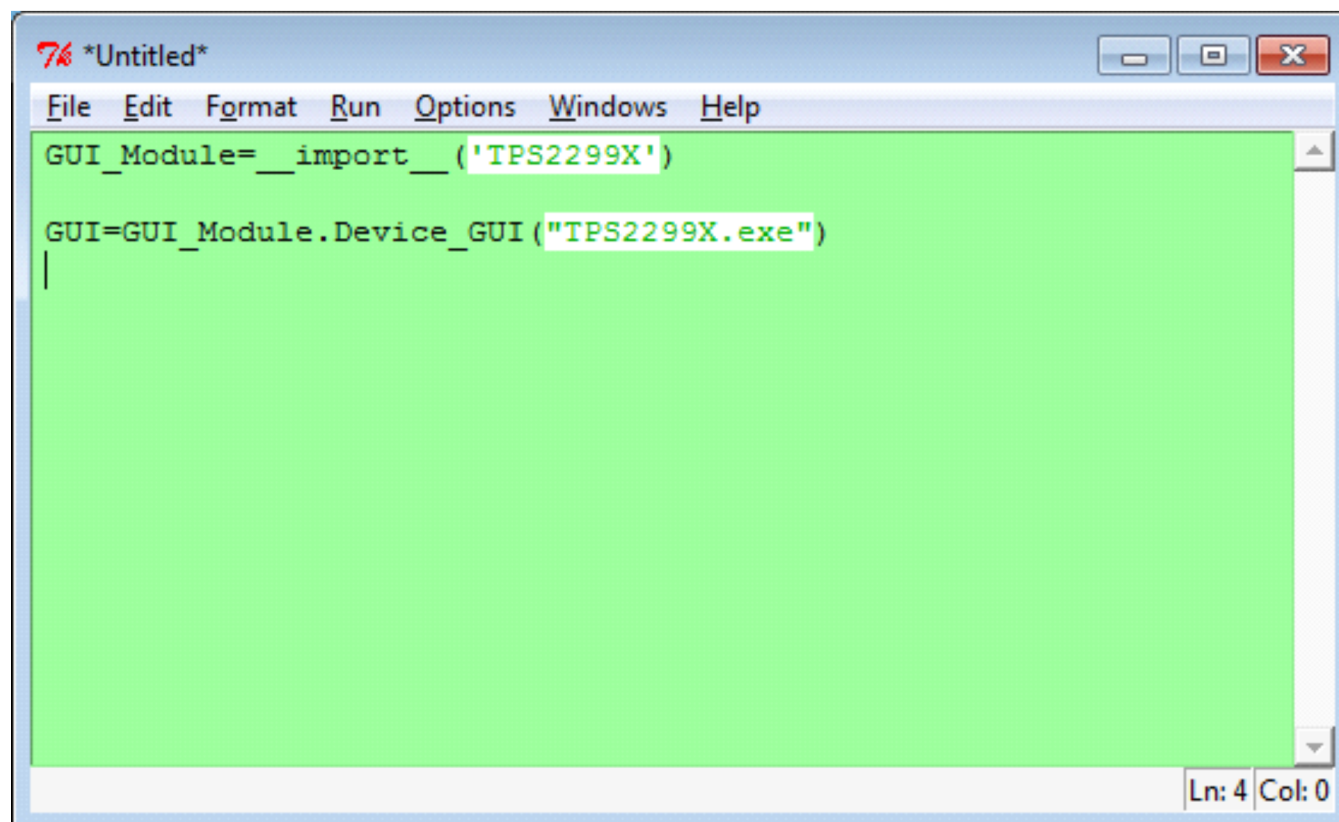
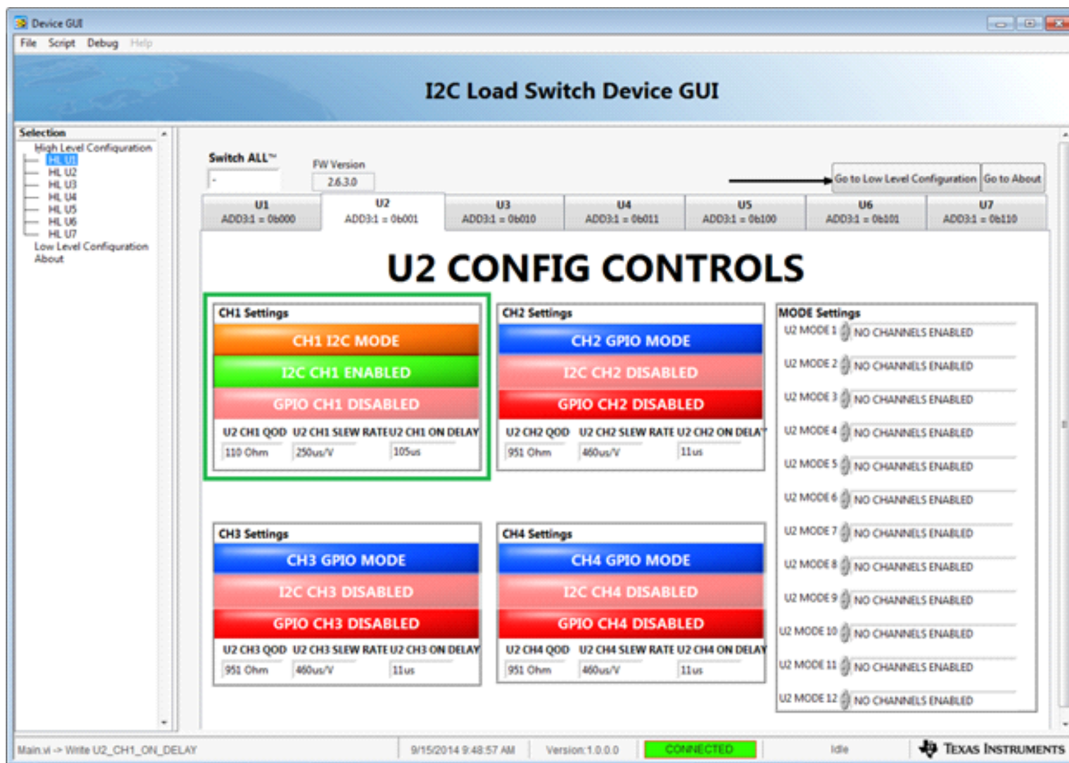

Figure 15. Python Script Window Begins Flashing Green
Figure 16. GUI Screen after Clicking U2 CH1 Controls
- (E) The Python script should begin flashing green and additional text should show up in the window, see Figure 15.
- (F) You are now ready to record the actions in the I²C Load Switch GUI. Click on the U2 tab to select device U2. Click on CH1 GPIO Mode it should transition to CH1 I2C MODE, Click on I2C CH1 Disable and it should transition to I2C CH1 Enabled and turn Green, Click on U2 CH1 QOD and select 110 Ω , Click on U2 CH1 Slew Rate and select 250 μ s/V, and Click on U2 CH1 ON Delay and select 105 μ s.
- (G) Your GUI screen should look like Figure 16 after you have finished clicking the controls.